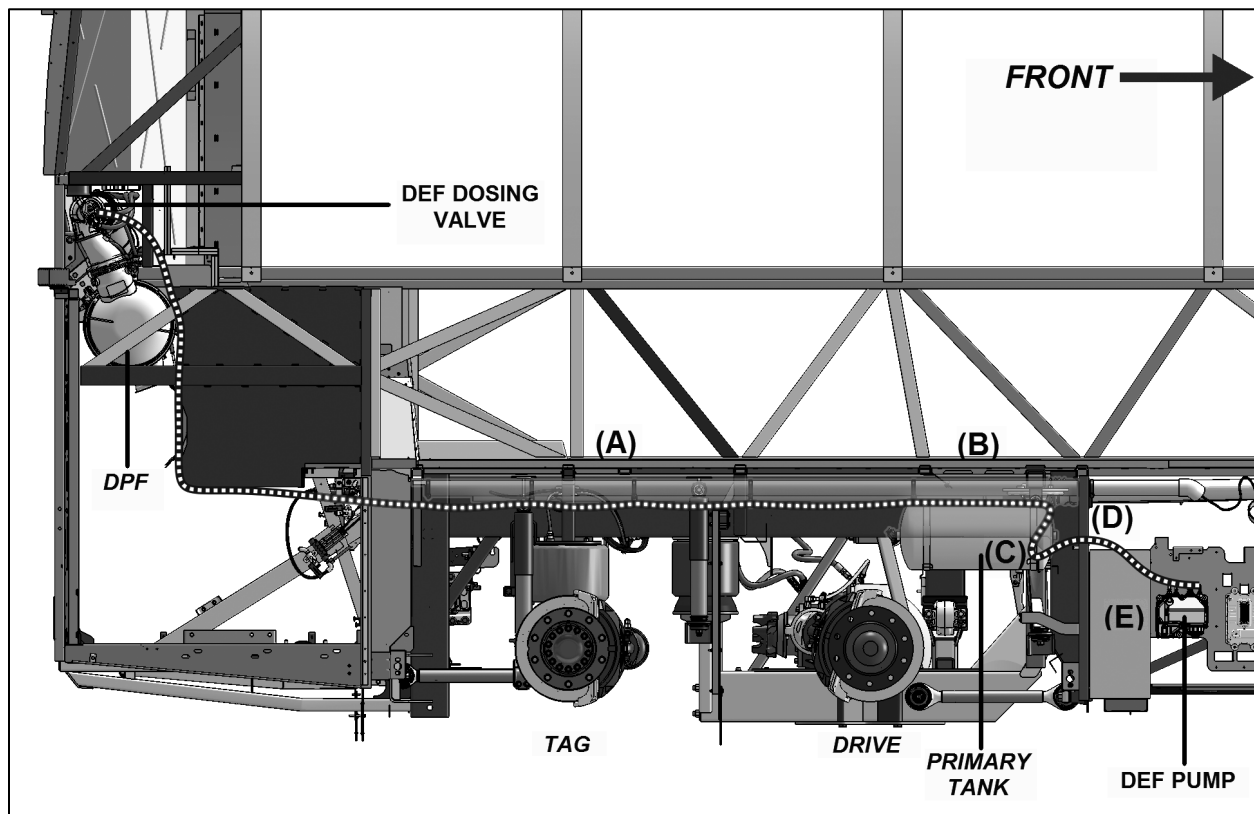

Figure 1 :Hose routing Side view
(Refer to figure 1) Routing above the rear axles will follow the PVC tubes (A), up to the primary tank (B), then under the frame rail between the wheel mud guard and wall (C), through the condenser compartment wall (D), and finally to the DEF pump (E).